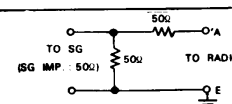

Fig. 3 Antenna Pad
- Connect the signal generator to the antenna receptacle through the antenna pad, (Fig. 3)